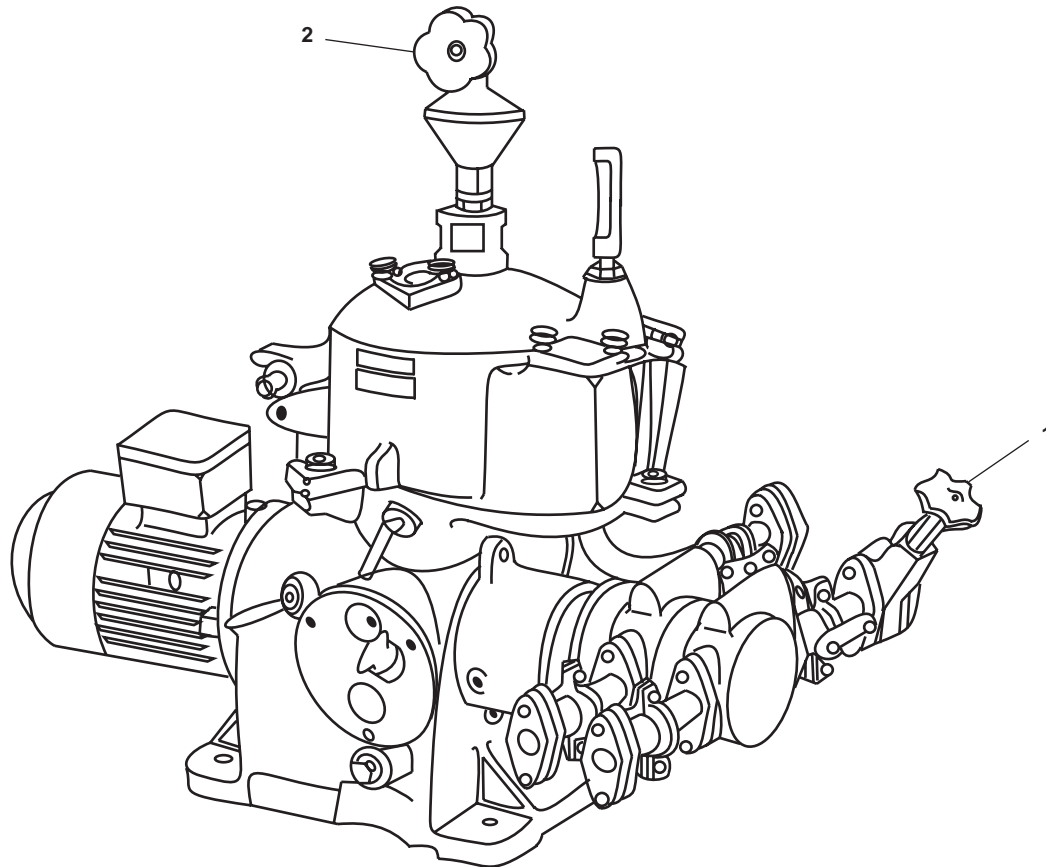

Figure 3. Lube Oil Purifier
- a. CLOSE the shutoff valve (figure 3, item 1).
- b. CLOSE the needle valve (figure 3, item 2).